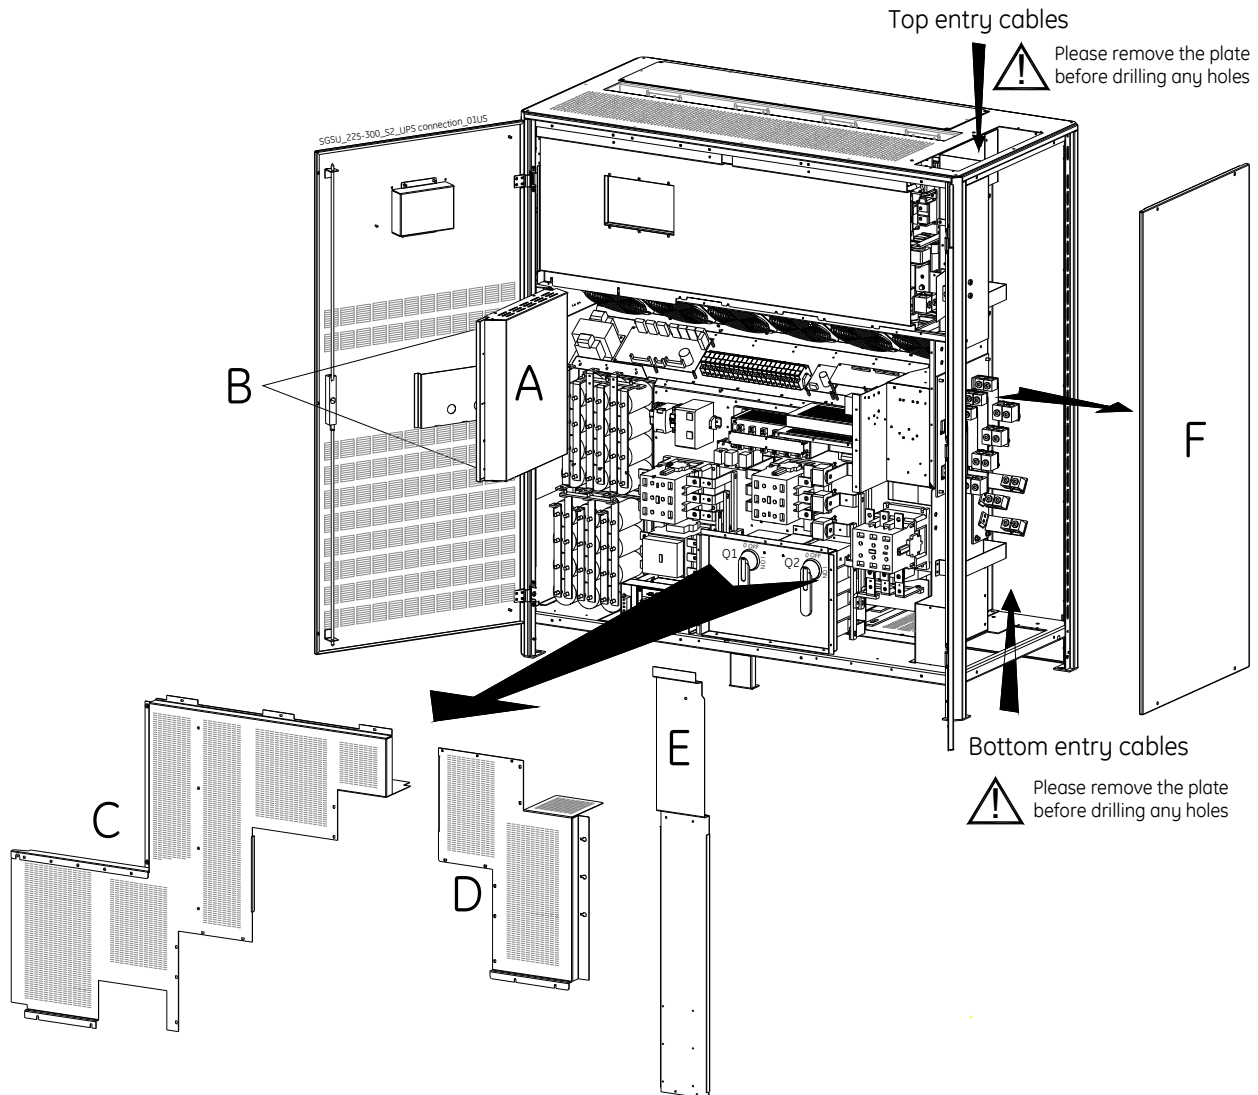

Fig. 3.8.1-1 Access to the input / output connections
- If the UPS is installed in such a way that the accessibility to the right side panel is reduced, field wiring connections can be made from the front side by removing the front right side panel protection cover/panel (E) as indicated in *Fig. 3.8.1-1* be advised that installation performed from the front position will give the installer reduced visibility to the terminal lugs.